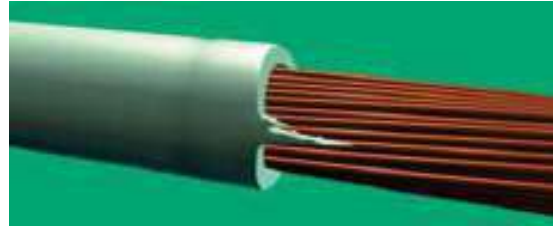

Figure 41
2. Any uneven, ragged pieces (frays, tails, tags) (Figure 41) are no greater than 50% of the wire diameter or 0.039 inch (1 mm), whichever is greater.